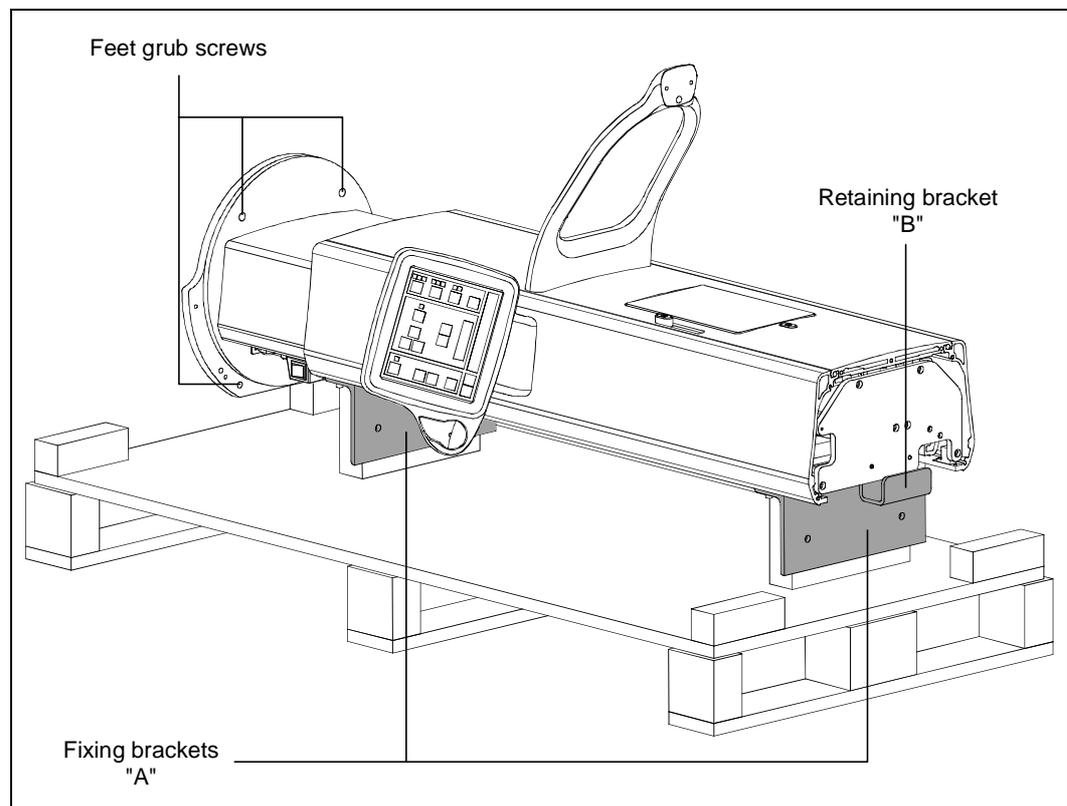

Figure 6-2
The column is delivered in a carton box containing the column itself, the patient support arm and the keyboard. All those parts are fixed to a wooden pallet using two fixing brackets (A); an additional retaining bracket (B) is fixed at the upper part of the column (Figure 6-2). Verify the presence of the four adjustment feet grub screws in the lower side of the column.
10. Acting on the feet grub screws (Figure 6-2), adjust them in order to level the feet on the floor. At the end, cover the grub screws with the provided cups.